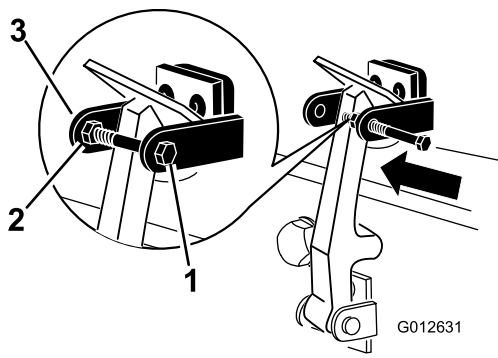

Figure 10
8. Install the bolt into the other arm of the hood-latch bracket to lock the latch in position (Figure 10). Tighten the bolt but do not tighten the nut.